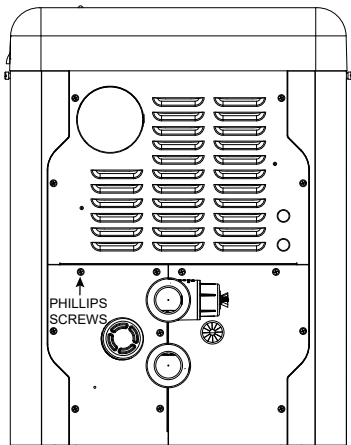

Figure 2. Remove Screws from Upper and Lower Panels
7. Remove the fourteen (14) Phillips head screws that attach the upper and lower access panels to the heater cabinet. The panels are on the same side of the heater as the inlet and outlet water connections (See **Figure 2**).